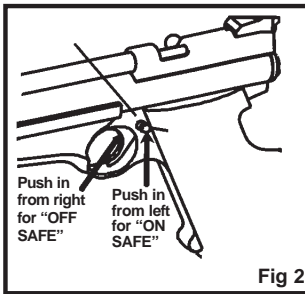

Fig 2
- Push the safety from the left side all the way in. (Fig. 2). The safety is not on unless it is pushed all the way in and the red ring around the safety is not showing.